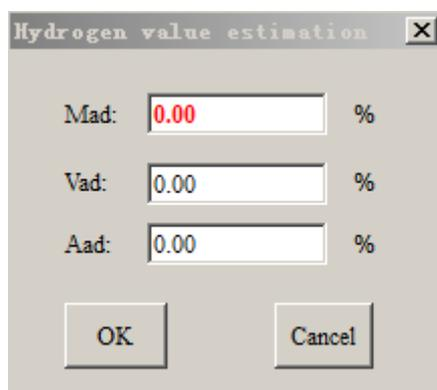

Fig. 4-6 Hydrogen value estimation
4. Input of Had: You can input Had value directly, or you can click “>” button in “Had” input frame. As shown in Fig. 4-6, you can input Mad, Vat and Aad, then click “OK”. System will automatically calculate Had according to empirical formula and transmit it to Had input window. Clicking “Cancel” will return to parameter input window directly.